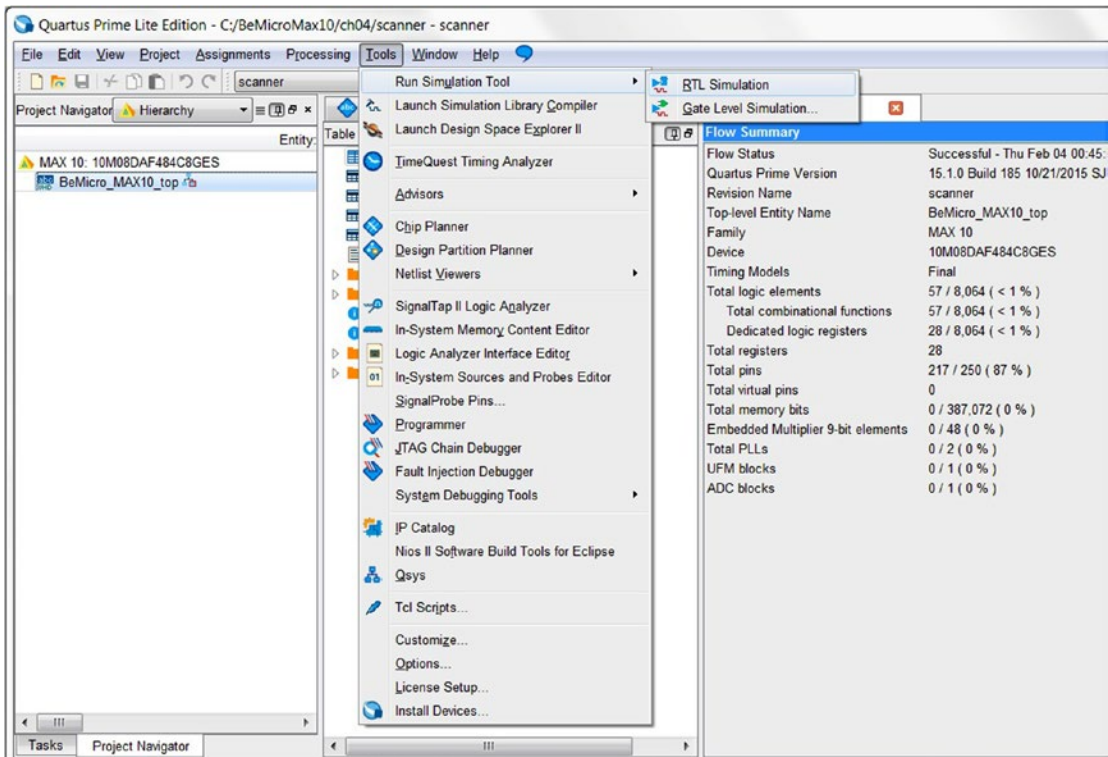
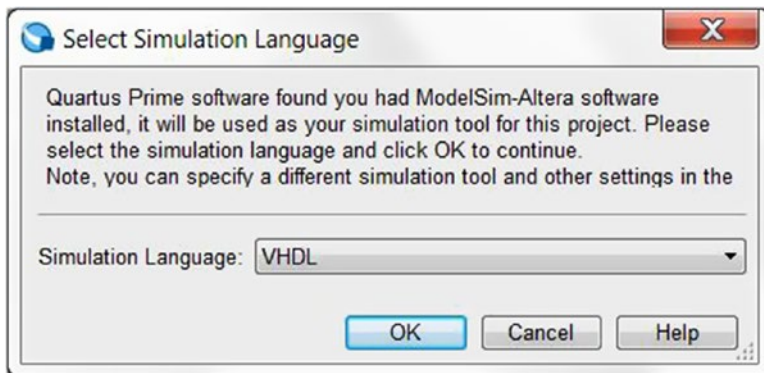

Figure 4-33. Start the Simulation software—ModelSim-Altera version
Figure 4-34. Select simulation language—VHDL
3. Click **Tools** ► **Run Simulation** ► **RTL Simulation** to open ModelSim (Simulation software). It is like Figure 4-33. The first time you run it in a project, it will ask you to select the simulation language. Select **VHDL** and click **OK** (Figure 4-34).